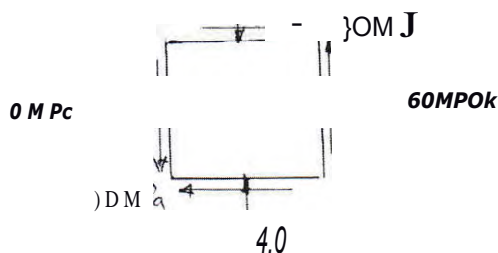

Fig.Q3(b)
- b. For a two dimensional stressed element shown in Fig.Q3(b), determine principal stresses, principal planes, maximum shear stress and maximum shear stress planes.